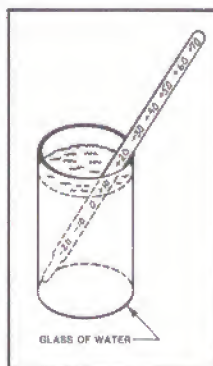

FIGURE 13
**REFRIGERATOR:** Place the thermometer in a glass of water and place the glass in the middle of the refrigerator section. See Figure 13.